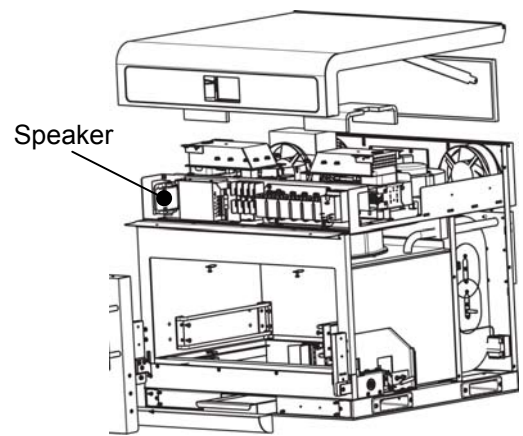

Figure 5: i5 Speaker Location
3. Access the failed speaker (Figures 5, 6, and 7).